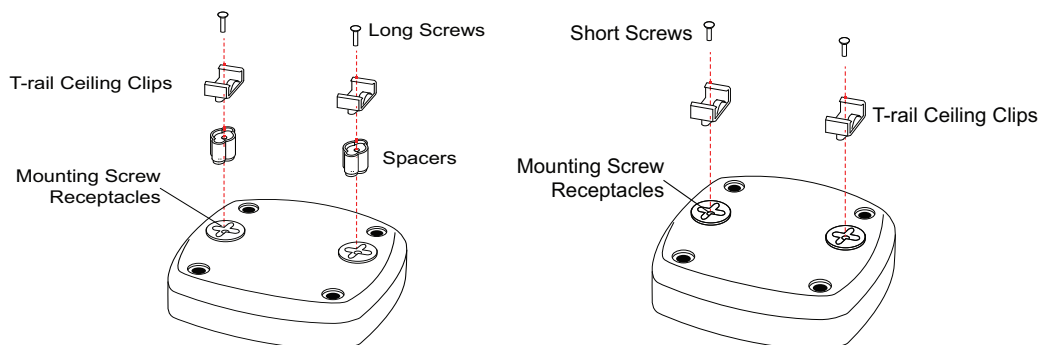

Figure 3. Attach the Ceiling Clips to the LoRaWAN Gateway
1. Attach the appropriate size ceiling clips to the bottom cover of the LoRaWAN gateway using the provided short screws as shown in Figure 3: